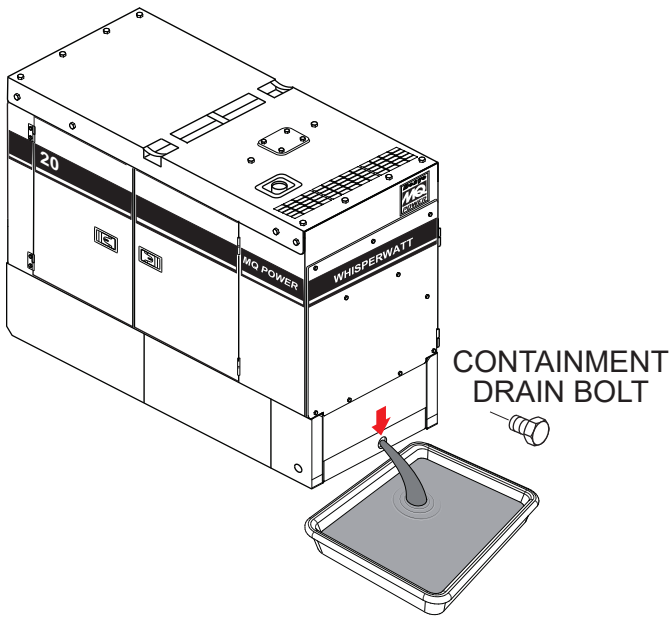

Figure 53. Draining The Containment Tank
2. If the tank becomes full with fluids, remove the **drain bolt** (Figure 53), then allow the fluids to drain into a suitable container.